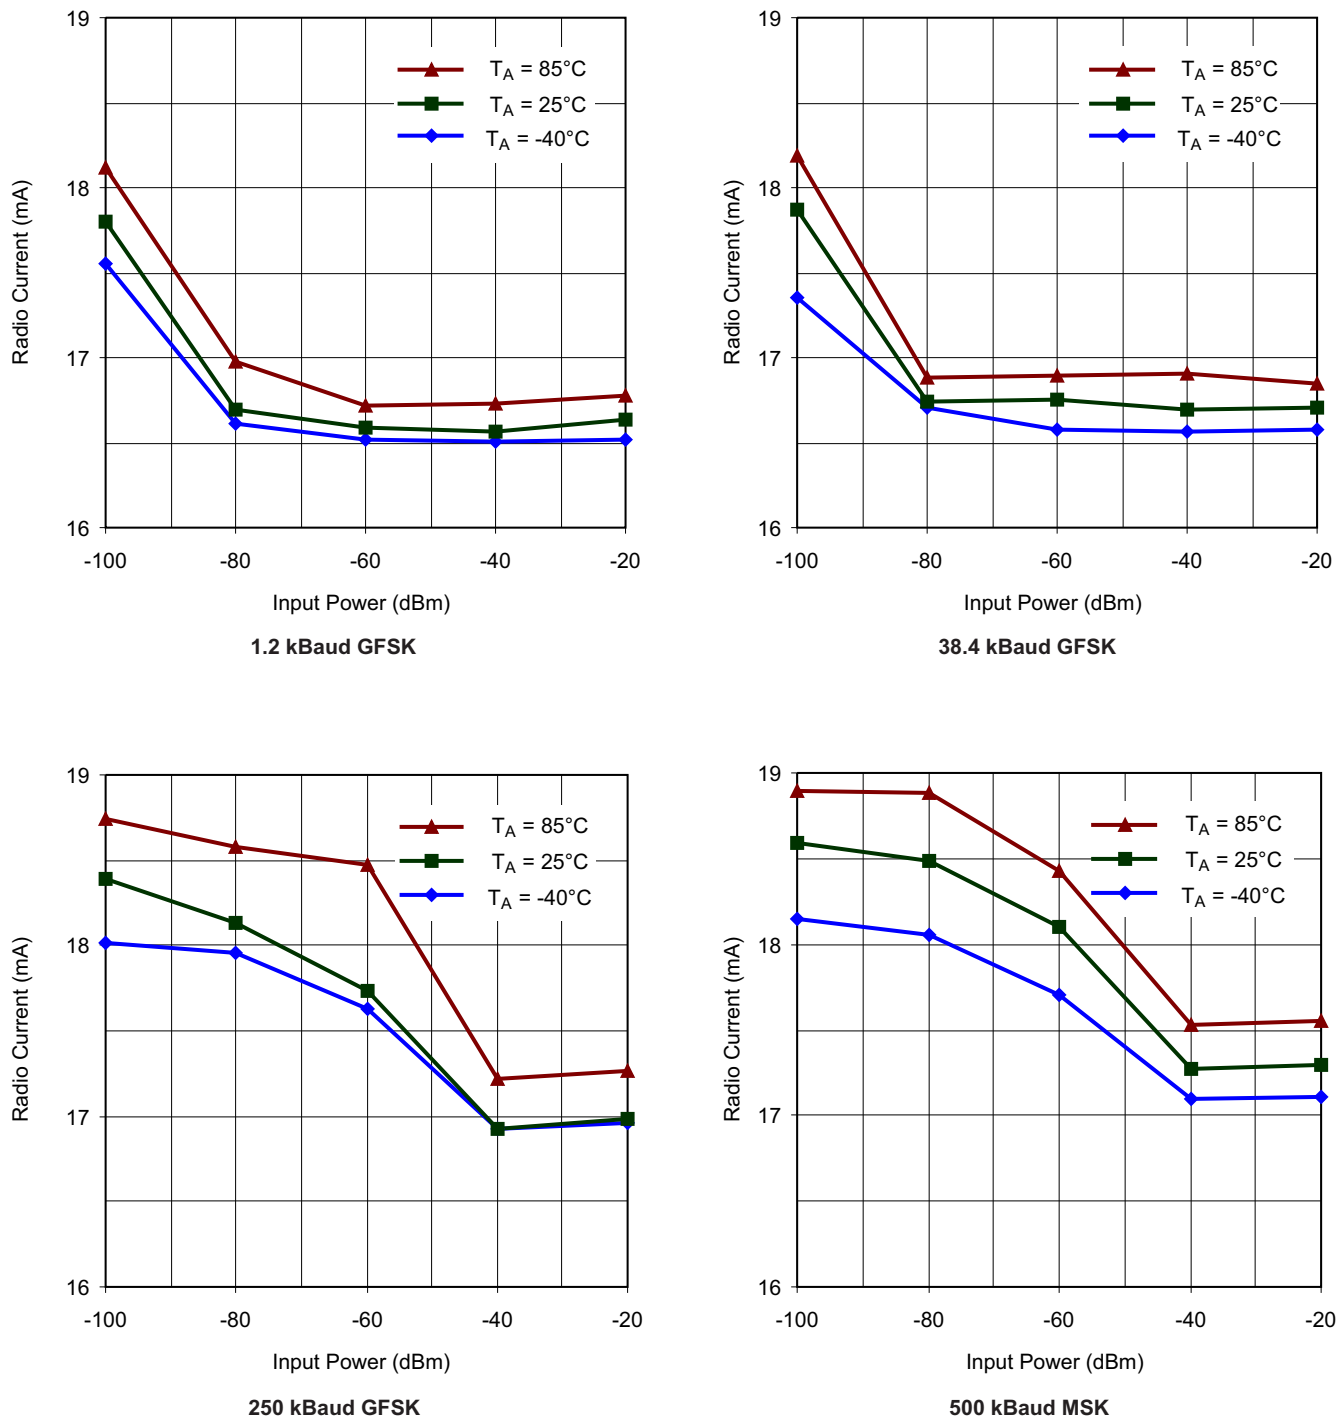

Figure 5-20. Typical RX Current Consumption Over Temperature and Input Power Level, 868 MHz, Sensitivity-Optimized Setting
- (1) All measurement results are obtained using the EM430F6137RF900 with BOM according to tested frequency range (see Table 7-1).
- (2) Reduced current setting (MDMCFG2.DEM\_DCFILT\_OFF = 1) gives a slightly lower current consumption at the cost of a reduction in sensitivity. See Section 5.55 through Section 5.58 for additional details on current consumption and sensitivity.
- (3) For 868 or 915 MHz, see Figure 5-20 for current consumption with register settings optimized for sensitivity.